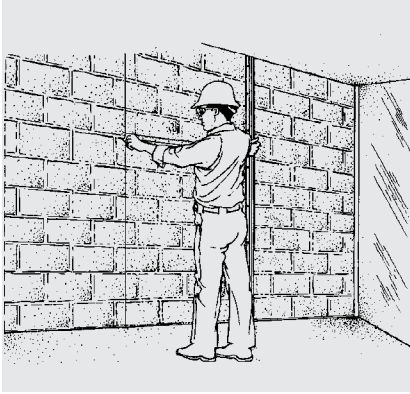

Figure 6
2. Fasten PVC base strip to concrete or masonry wall every 12" with a pneumatic nailer or equivalent (Figure 6).